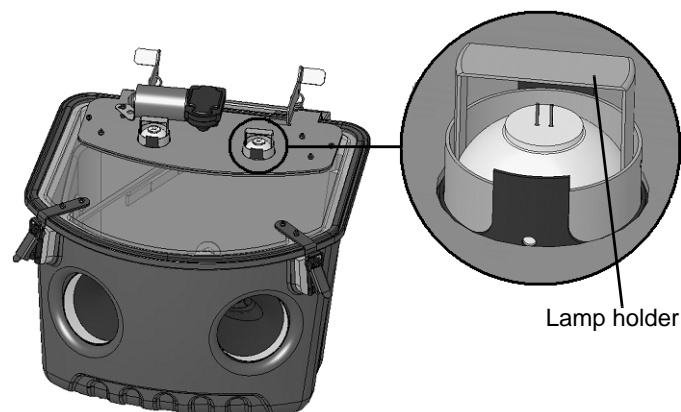

Figure 6-2: Lamp assembly (wires and connector).
3. Remove the lamp holder (see figure 6-2).